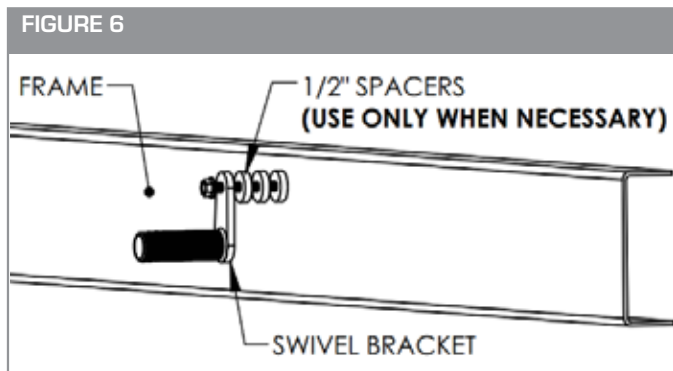

FIGURE 7
- Once the brackets are in position with the fender, tighten the 5/8" x 4-1/2" bolt that goes through the (10001476) swivel bracket to attach the swivel securely to the frame. (See Figure 7)